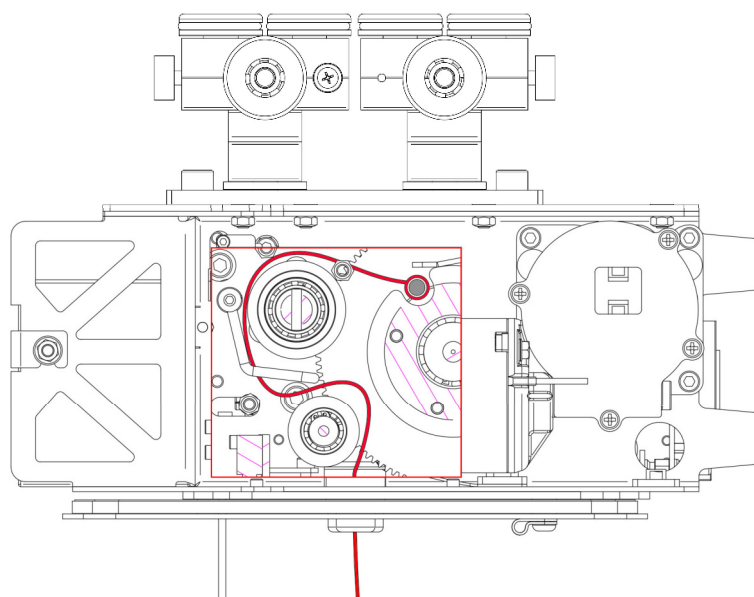

Figure 12, Lifting Tape guide
10. Push the new Lifting Tape through the opening and guide it to the roll axle through the Battery space as shown in Figure 12 (red line).